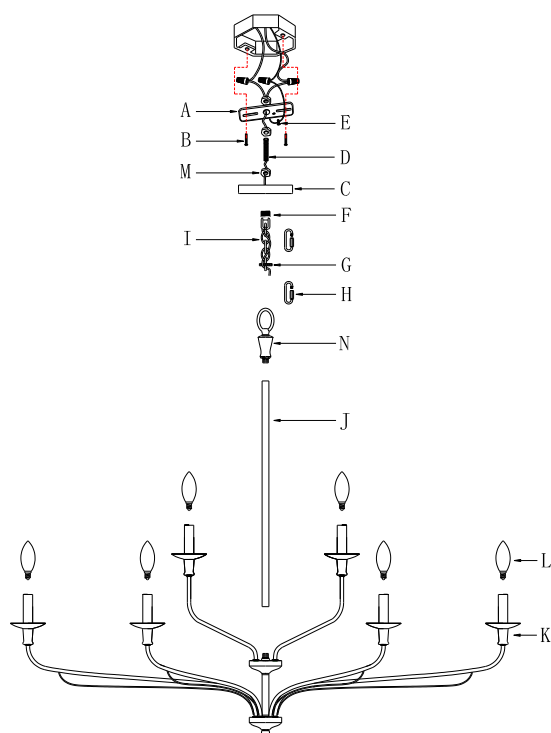

Fig. 2
CONNECTING THE WIRES (Fig. 2)
9. Connect electrical wires as shown in Fig.2, making sure that all wire connectors are secured. If your junction box has a ground wire (green or bare copper), connect fixture's ground wire to it. Otherwise, connect ground wire directly to crossbar (A) using green screw (E) provided.